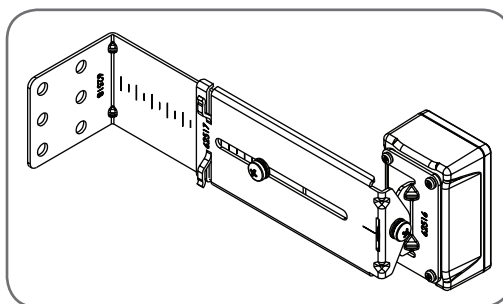

Fig 6.2
- Attach the bracket (2) to the Safety Beam transmitter with four tapite screws (m3x5) (7) and attach the other side to the adjustment bracket (3) with the pan head screw (6). (Fig. 6.2)